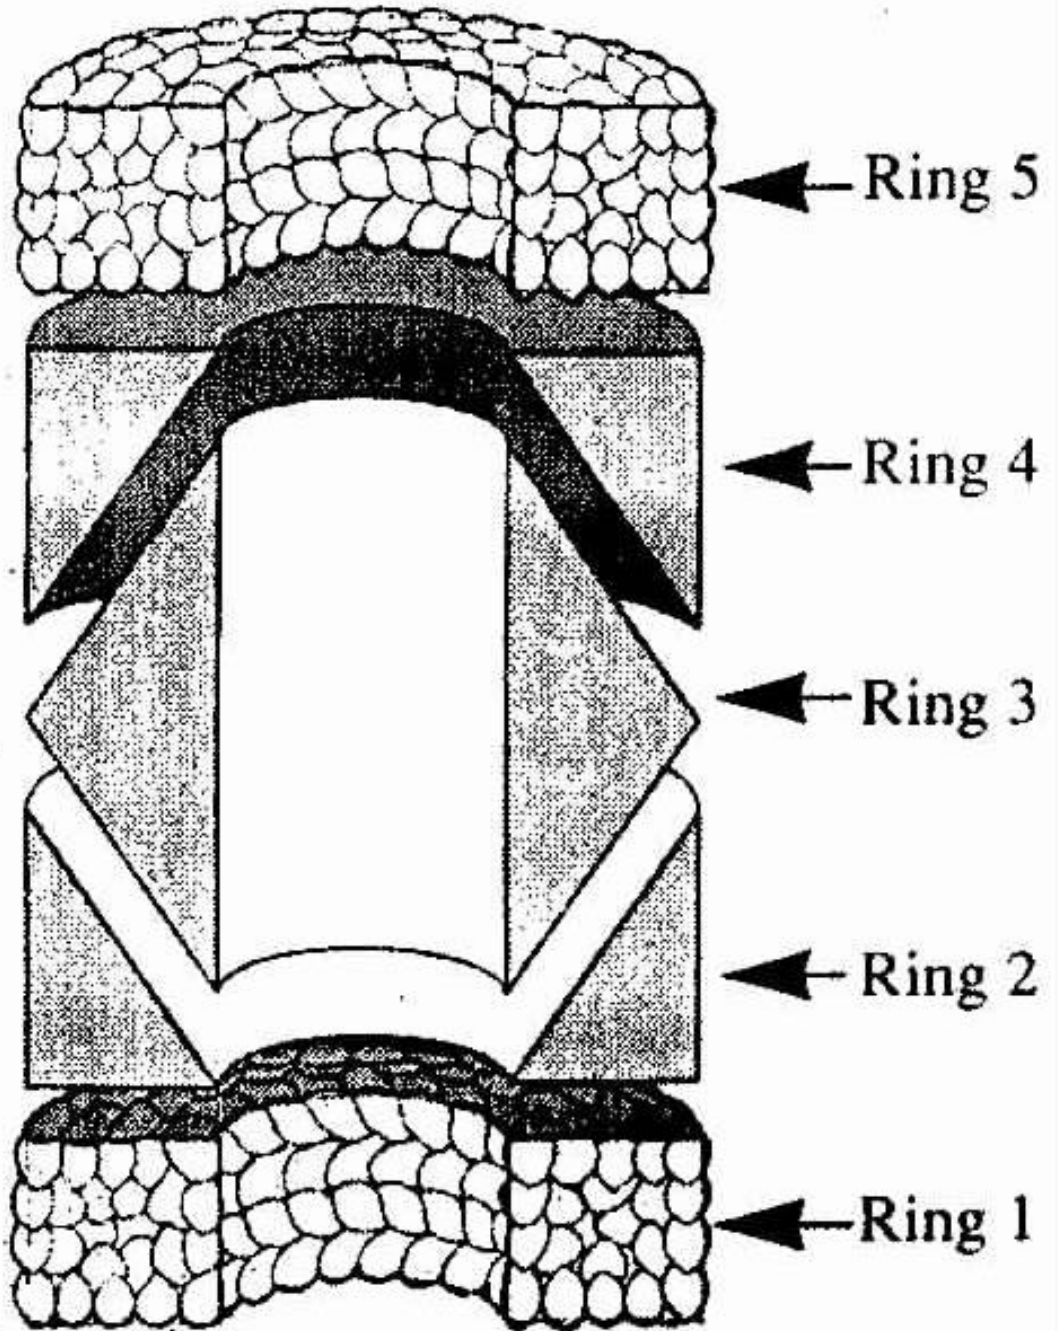

**Fig.5 Packing Set Arrangement**
## 13.0 Gland Seal Replacement (Refer to Figs 5 & 6)
- 13.12 Tighten the gland nut down to the setting dimension shown in Fig. 5.